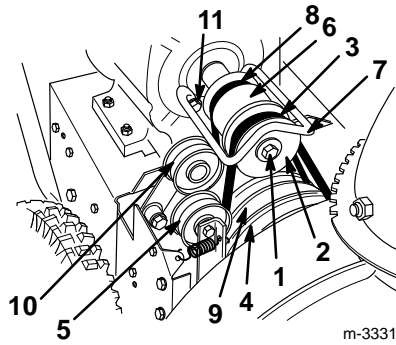

Figure 28
When the traction belt (Fig. 28) becomes worn, oil-soaked, or otherwise damaged, replace the belt. You can purchase a new belt from your Authorized Service Dealer.
5. Remove two screws, two washers, and two lock washers that secure the belt guide (Fig. 28).
6. Remove the engine crankshaft screw, lock washer, and washer (Fig. 28).
7. Separate and remove the engine pulley sheave (Fig. 28).
9. Remove the center engine pulley (Fig. 28).
10. Remove the traction belt from the traction pulley and the engine crankshaft (Fig. 28).
11. Pull the traction idler pulley outward and install a new traction belt (Fig. 28).
13. Pull the idler pulley outward and loop the auger/impeller drive belt in front of the center engine pulley, making sure that the belt is on the inside of the idler pulley and the belt guide (Fig. 28).
When the auger/impeller drive belt (Fig. 28) becomes worn, oil-soaked, or otherwise damaged, replace the belt.
8. Remove the auger/impeller drive belt from the center engine pulley and the large auger/impeller pulley (Fig. 28).
9. Pull the idler pulley outward and install a new belt around the large auger/impeller pulley (Fig. 28).
10. Loop the belt in front of the center engine pulley, making sure that the belt is on the inside of the idler pulley and the belt guide (Fig. 28).